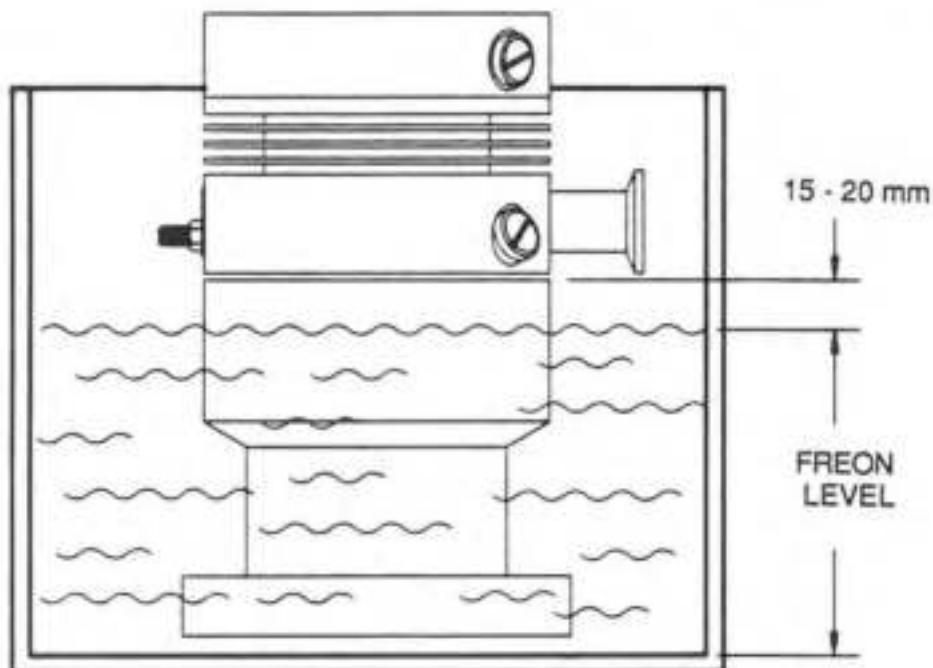

Figure 5-9. Turbo Pump Cleaning Procedure
- 1 Prepare a large, very clean container (large enough to put the turbo pump in as shown in Figure 5-9) and fill it with **CLEAN** Freon TF.